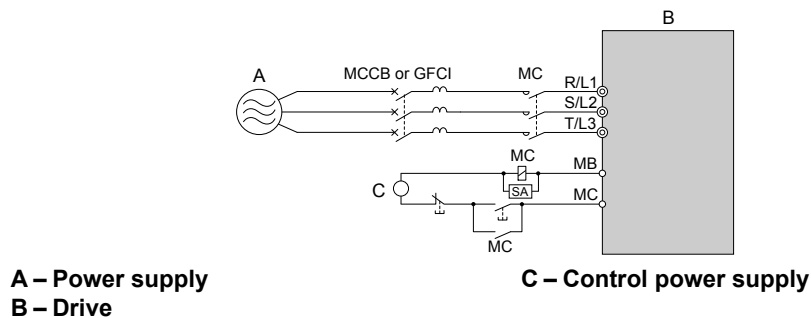

Figure 6.8 Power Supply Interrupt Wiring (Example)
- If several drives are connected to one MCCB or GFCI that is shared with other equipment, use a sequence that shuts the power OFF when errors are output by using magnetic contactor (MC) as shown in Figure 6.8.